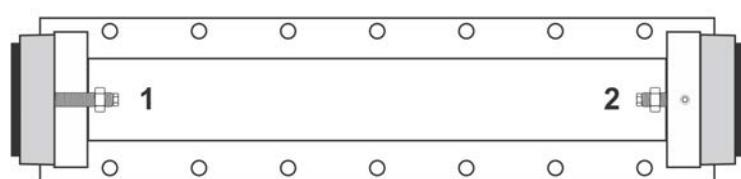

Figure 12
38. Alternately torque each buttress isolator to 90 foot-pounds using small adjustments. This is best completed with two people making equal adjustments to buttress locations 1 and 2 at the same time. See Figure 12.